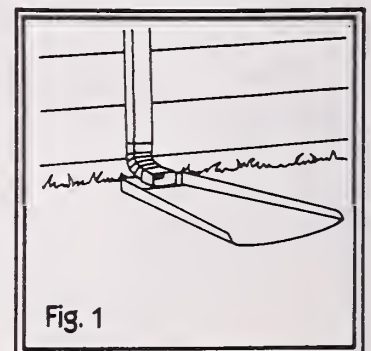
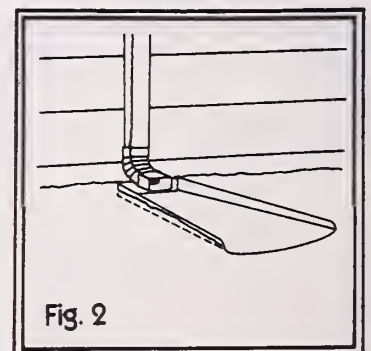
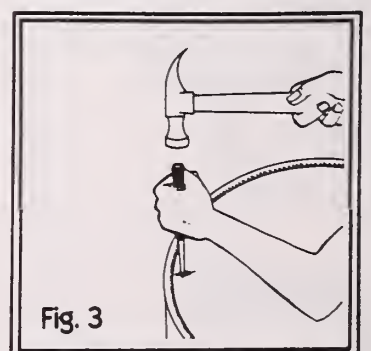

Fig. 1
Fig. 2
Fig. 3
1. Place a splash block on the ground directly under each downspout (fig. 1). Instead of splashing on the ground, the water falls on the splash block and is directed away from the building. For best results, make sure the length of the splash block extends at least 3 feet from the house and that the grade slopes about 6 inches in 10 feet.
2. Check the proper positioning of the splash blocks each time you inspect and clean the gutters and downspouts. Splash blocks will tend to settle into the ground over a period of time (fig. 2). If they've settled, rebuild the ground back to its original surface and replace the splash block.
1. Place the drum flat on the ground, either end up. Using the hammer and steel punch, make a hole in the end near the edge (fig. 3). Insert the
3. Mark the area to be repaired, using the square and a pencil (fig. 1). This mark should be approximately  $\frac{1}{2}$  inch from the crack to avoid hitting the nails (blind-nailed) with the saw blades (fig. 2). Carefully adjust the blade of the portable saw to the thickness of the flooring to avoid cutting the subflooring. Place the saw at the center of the end mark, slightly tilted, with the blade resting on the flooring (fig. 3). Make the cut to the corner of the marked area. Cut the opposite end the same way.